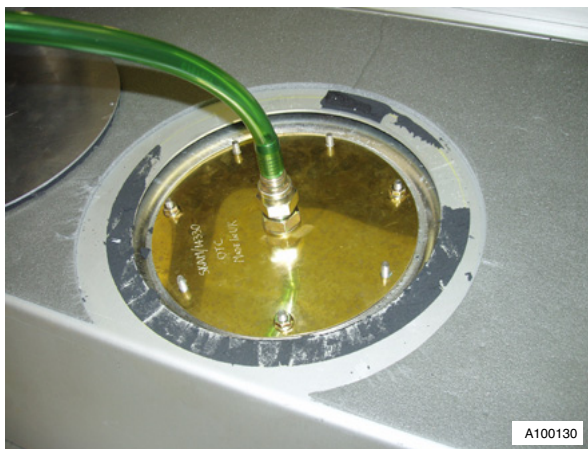

Fig. 1
8. Install the fuel tank drainage adaptor (see Fig. 1).